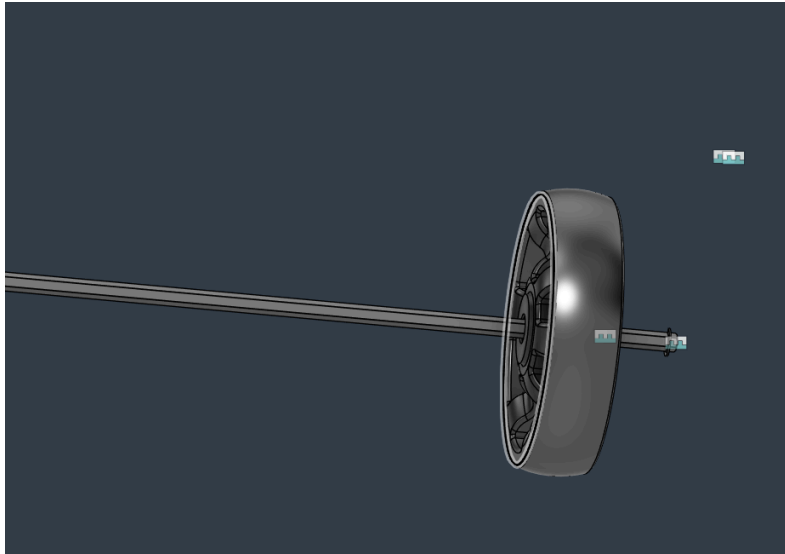

Figure G.7: Wheel attachment
8. Slide the axle through a 3D printed wheel and add a shaft collar to secure, as shown in Figure G.7